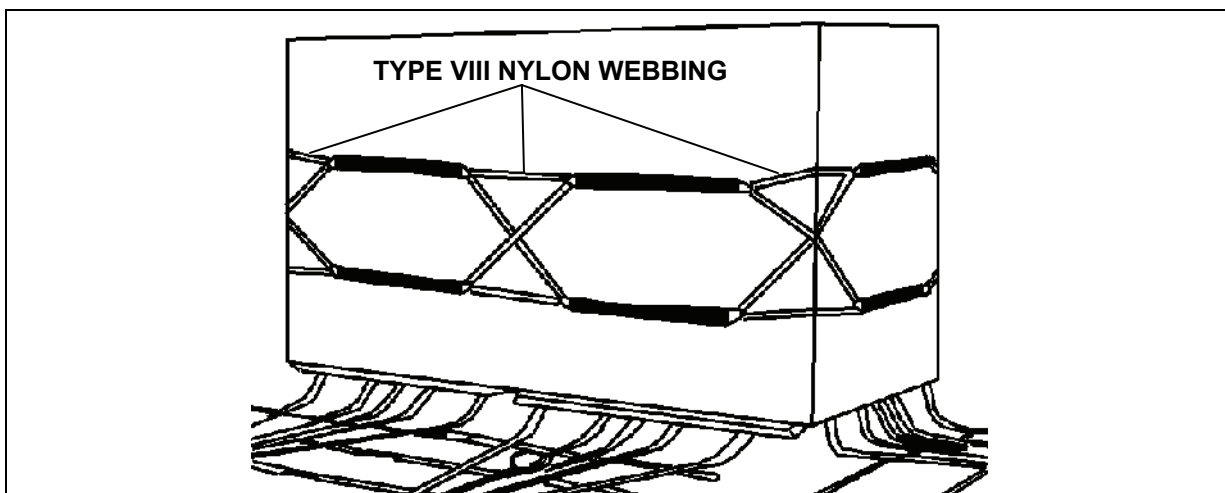

Figure 8-13. Cover Ties Installed
- Use six lengths of 1/2-inch tubular nylon webbing to lace the cover closed. Pull the webbing tight and tie the running ends in a surgeon's knot and bow knot. Tape the excess and knots leaving one running end slightly exposed to allow rapid derigging (Figure 8-13).